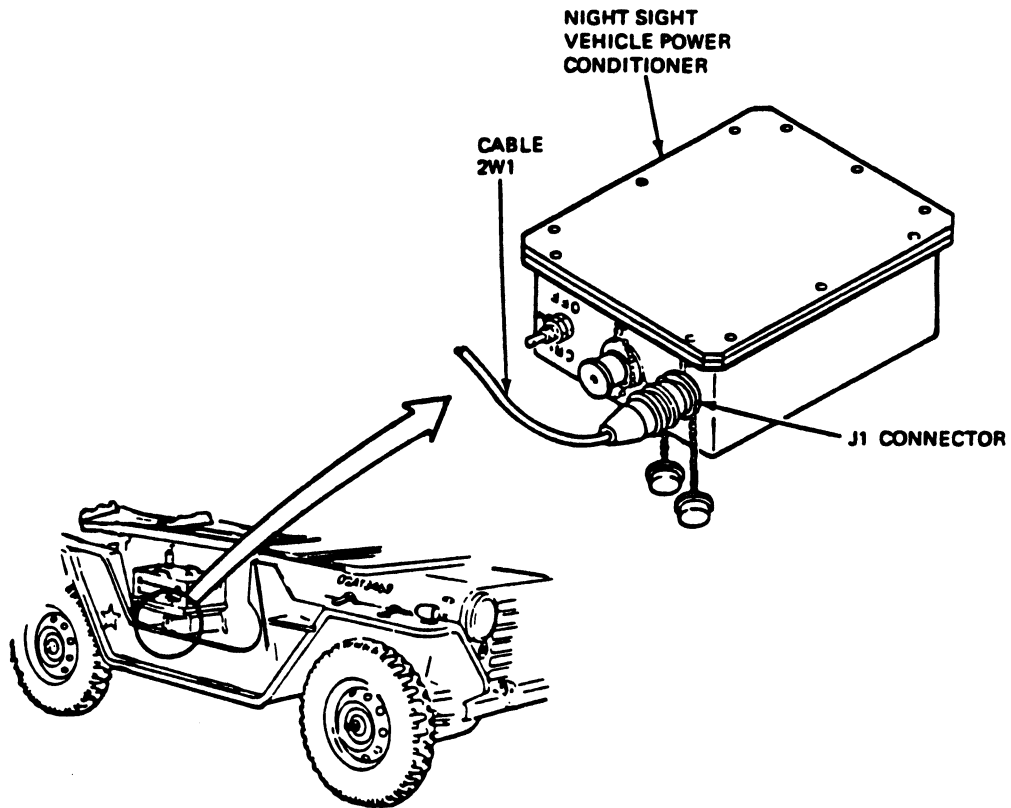

Fig 2-33. Night sight vehicle power conditioner.
Step 6. Ensure that cable 2W1 is connected to the night sight vehicle power conditioner connector J1 (fig 2-33).